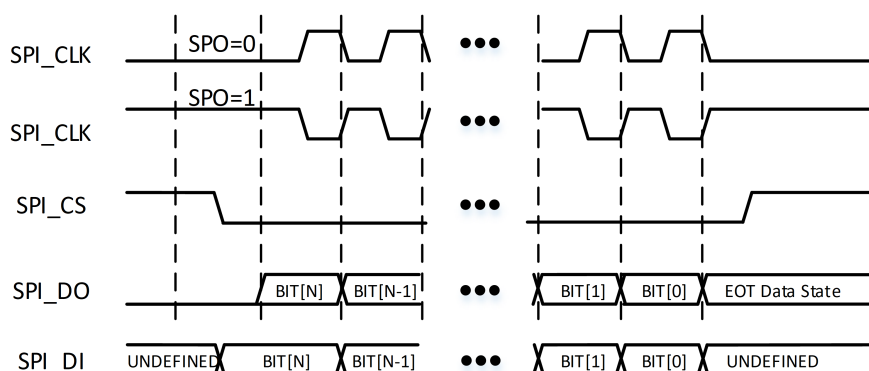
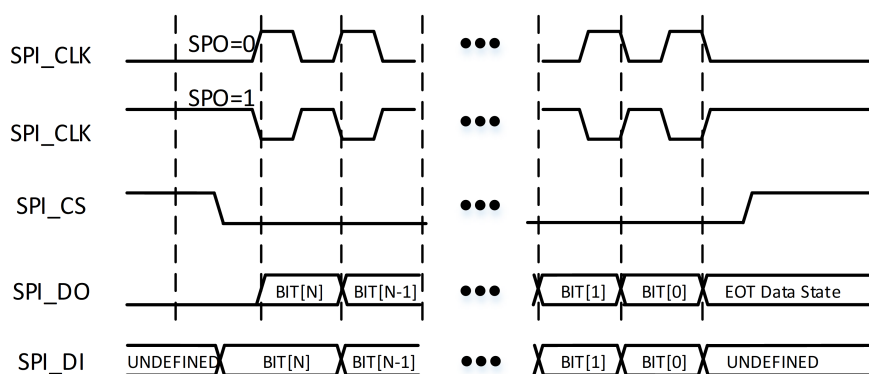

Figure 7-3: SPI communication when SPH is 0
Figure 7-5: Protocol Continuous Transmission Timing
- SPI Format SPI is a full-duplex synchronous serial communication protocol, divided into four sub-modes according to the settings of SPO and SPH in the TOP_CTRL register. SPO configures the polarity of SPI_CLK when the SPI controller is either disabled or in the IDLE state. When SPO is 0, the SPI_CLK polarity is low level, and the first edge is the rising edge; When SPO is 1, the SPI_CLK polarity is high level, and the first edge is the falling edge.SPH sets the timing of the clock edges for driving and sampling data. When SPH is 0, the SPI controller samples data on SPI_DI at the first edge of SPI_CLK and drives SPI_DO at the second edge of SPI_CLK (SPI_DO defaults to the MSB of the data to be transmitted); WhenSPH is 1, the SPI controller drives SPI_DO from the first edge of SPI_CLK and samples data on SPI_DI from the second edge of SPI_CLK. Refer to Figures 7-3 and 7-4 for detailed communication timing.
The following describes the SPI protocol communication process with reference to Figure 7-3 under the conditions SPH=0 and SPO=0. When the SPI controller is disabled or in the IDLE state after being enabled, SPI_DO is at a low level, SPI_CS is at a high level, and SPI_CLK is at a low level. The SPI_CS signal is pulled low to initiate a data transmission and remains low until the current frame data transmission is complete. After half a SPI_CLK cycle, the data for this transmission of MSB is driven onto the SPI_DO line. After another half SPI_CLK cycle, the SPI_CLK rises to start the first rising edge and sample SPI_DI. Before all data for this transmission is fully sent, the SPI_CLK continues toggling at the configured frequency. After the final sampling, the SPI_CLK returns to low level. After half a SPI_CLK cycle, the SPI_CS is pulled high to end this transmission. When operating as the MASTER in communication, if multiple data entries are pending in the TXFIFO for transmission, the SPI controller will transmit the data continuously through consecutive transfers. During the process, SPI_CS signal remains low. The transmission timing is shown in Figure 7-5.